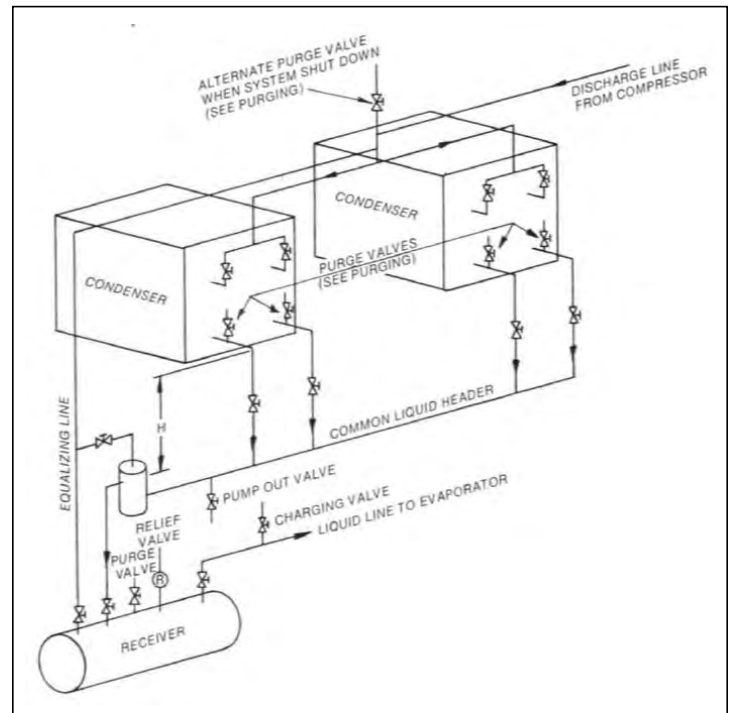

Figure 13b. Parallel Piping with Common Liquid Header above Receiver Level Alternative 2
- **Figure 13b** indicates an alternative method of trapping the main liquid header using a vertical trap. The volume of the vertical trap between the bottom inlet connection and the top outlet connection must be equal to the combined volume of the liquid in all of the drop legs. The top of the vertical trap must be connected to the equalizing line to prevent a siphoning effect from the liquid header to the receiver. There is no need to trap the individual drip legs when a vertical trap is used. The drop legs and the common liquid header should be sized for a maximum liquid velocity of 100 fpm.